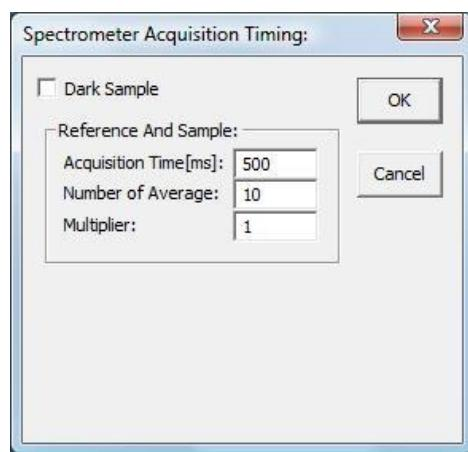

Fig. 118. Spectrometer timing dialog
7. If you have trouble achieving an acceptable value, click the **Set Integration Time** button in the *Film Thickness* dialog, which displays the dialog shown in Fig. 118. If the reference value was too low, increase the integration time; if the reference value was too high, decrease the integration time.